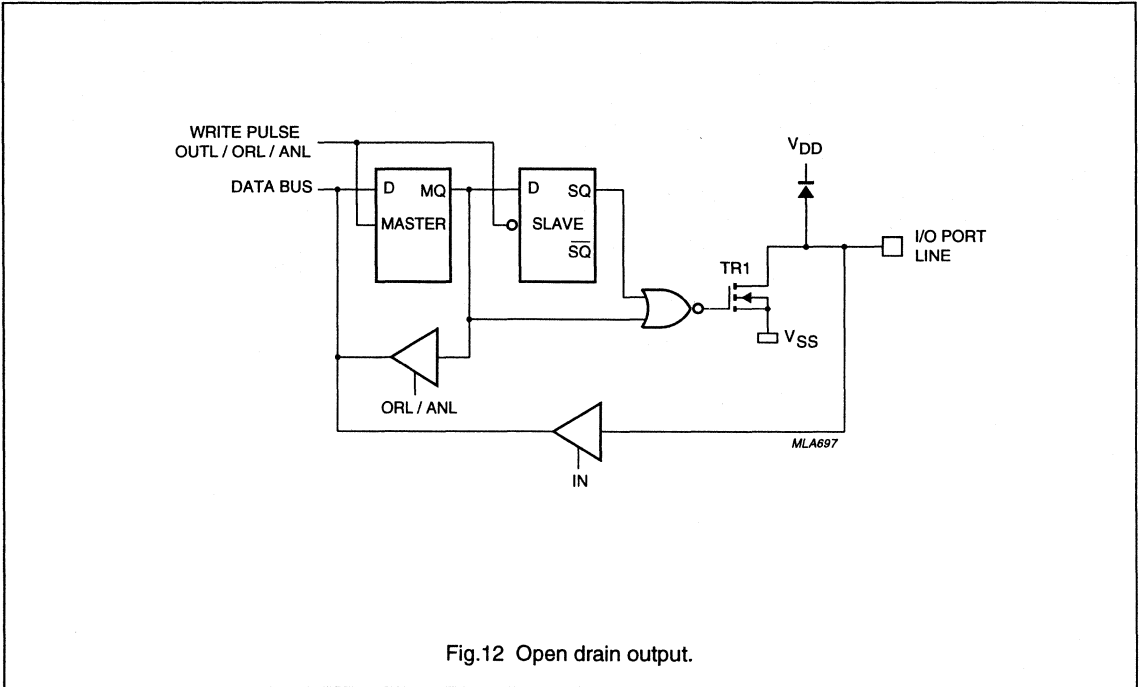

Fig.12 Open drain output.
- Option 2 Open Drain; quasi-bidirectional I/O with only an n-channel open drain output. Application as an output requires connection of an external pull-up resistor (see Fig.12). If unused, an Option 2 output should be tied to  $V_{SS}$ . This keeps the input path from floating, thereby avoiding undesirable current flow through input stages.